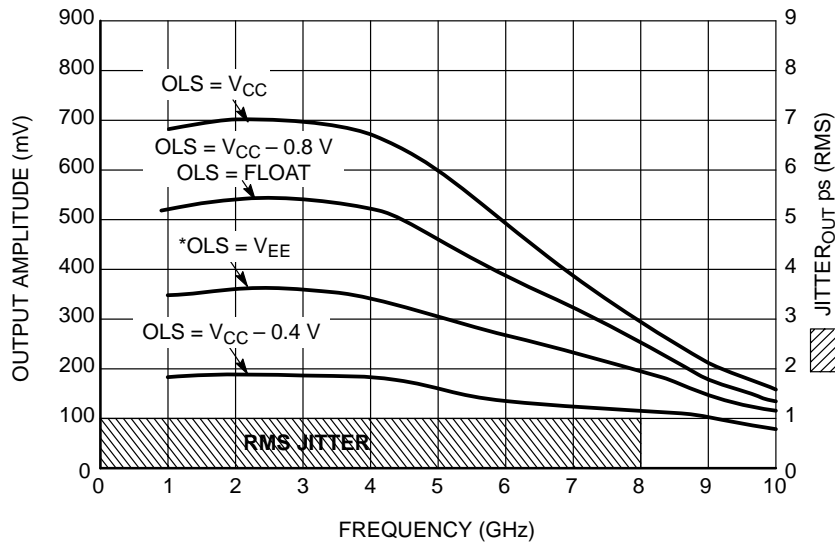

Figure 8. V_{OUT}/Jitter vs. Frequency for 2:1 MUX Mode
20. $t_{SKEW} = |t_{PLH} - t_{PHL}|$ for a nominal 50% differential clock input waveform. See Figure 8.